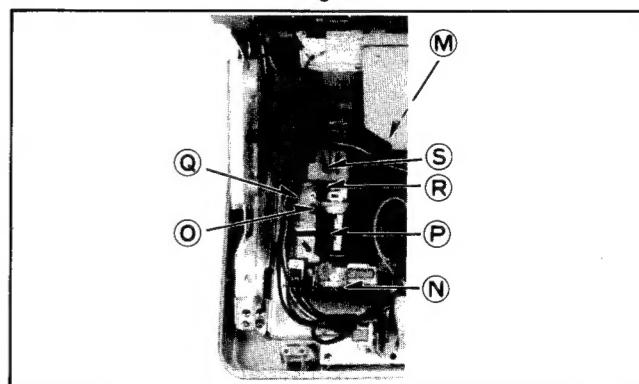

Fig. 13
- 3) Remove the anode lead **(M)** from the high voltage distributor shown in fig. 13.
- 4) Remove the LR printed circuit board **(N)** in fig. 13.
- 5) Remove the retaining screw of the neck shield **(O)** and remove the neck shield **(P)** in fig. 13.
- 6) Remove the retaining screw of the deflecting coil **(Q)** and draw out the centering magnet **(R)** and the deflecting coil **(S)** in fig. 13.